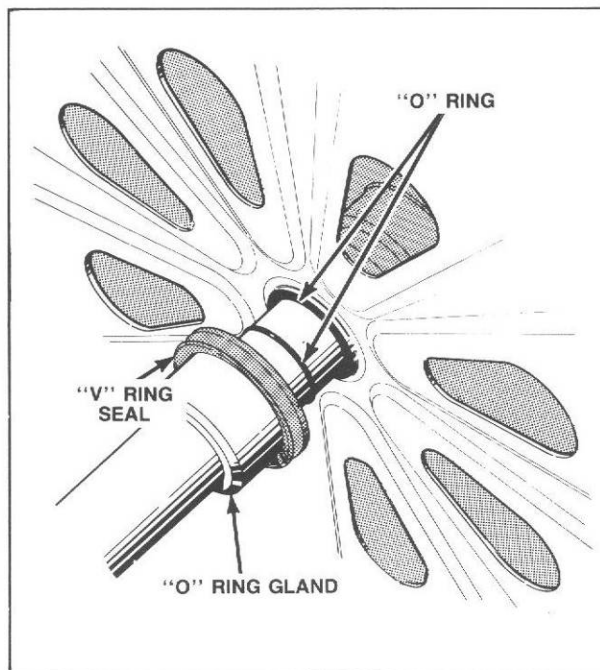

Figure 39
- r. Remove "O" ring gland, "V" ring seal and two "O" rings from cylinder shaft, *Figure 39*.